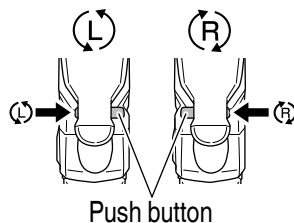

Fig. 15
6. Confirm the direction of bit rotation (Fig. 15)
The bit rotates clockwise (viewed from the rear side) by pushing the R-side of the push button. (Fig. 15)